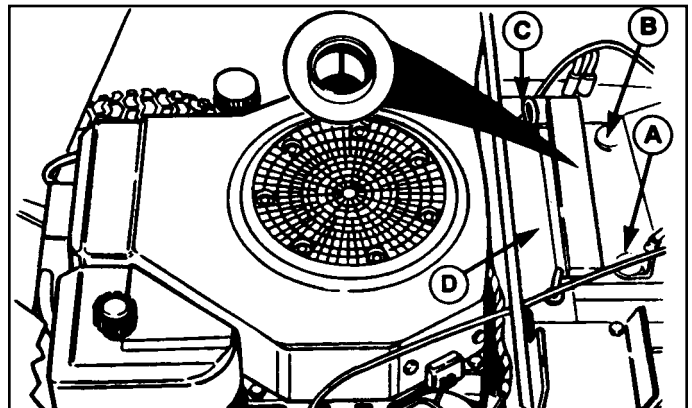

Figure 3. Battery Location and Checking Electrolyte Level
2. Check that fluid is even with the bottom of the split rings (see Figure 3). If not, fill with distilled water.